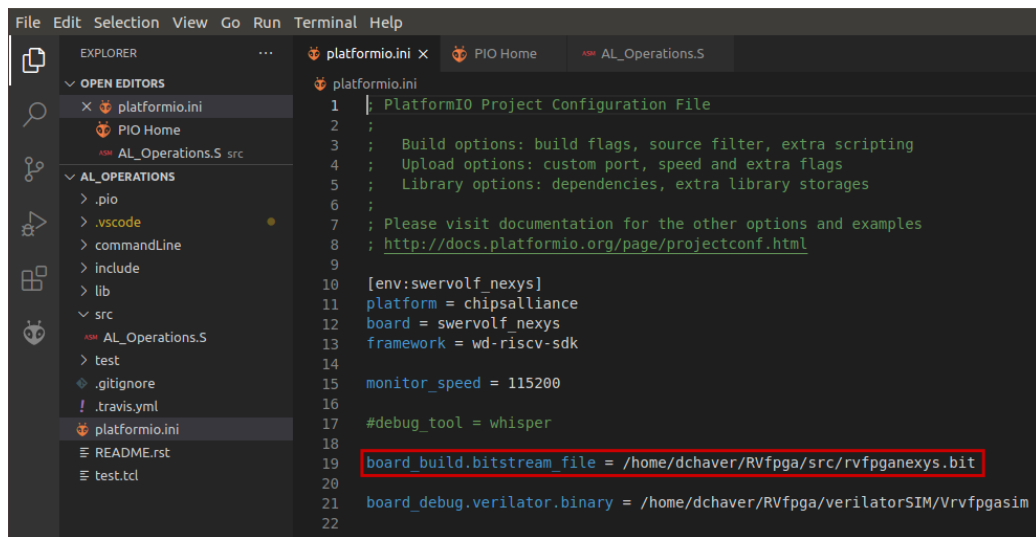

Figure 35. Platformio initialization file: platformio.ini
- Open file `platformio.ini`, by clicking on `platformio.ini` in the left sidebar (see Figure 35). Establish the path to the RVfpgaNexys bitstream in your system by editing the following line (see Figure 35). Note that a pre-synthesized bitstream of RVfpgaNexys is provided in the RVfpga folder at: `[RVfpgaPath]/RVfpga/src/rvfpganexys.bit`.